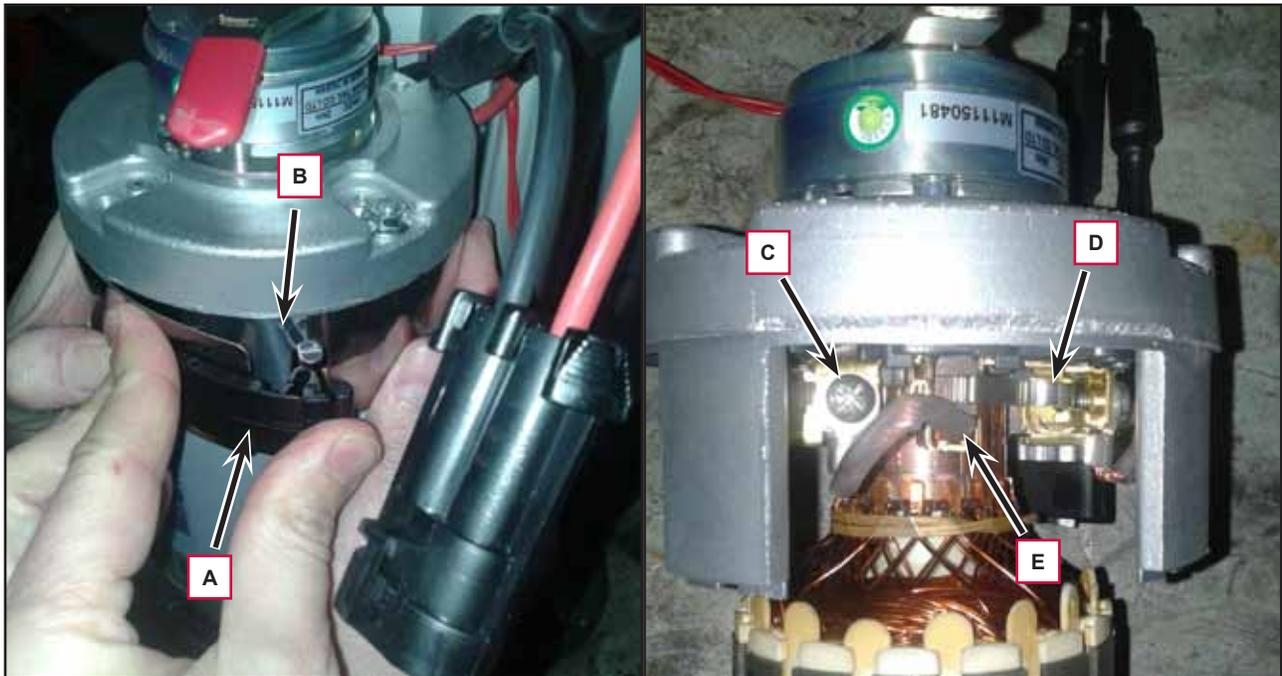

Figure 6
3. Remove the clamp (A, Figure 6) by disengaging the tab (B).
4. Remove the screw (C) of the carbon brushes lead-in wires.
5. Carefully disengage the retaining spring (D) and remove the carbon brushes (E).
6. Check the carbon brushes (E) for wear. The carbon brushes are worn out when: